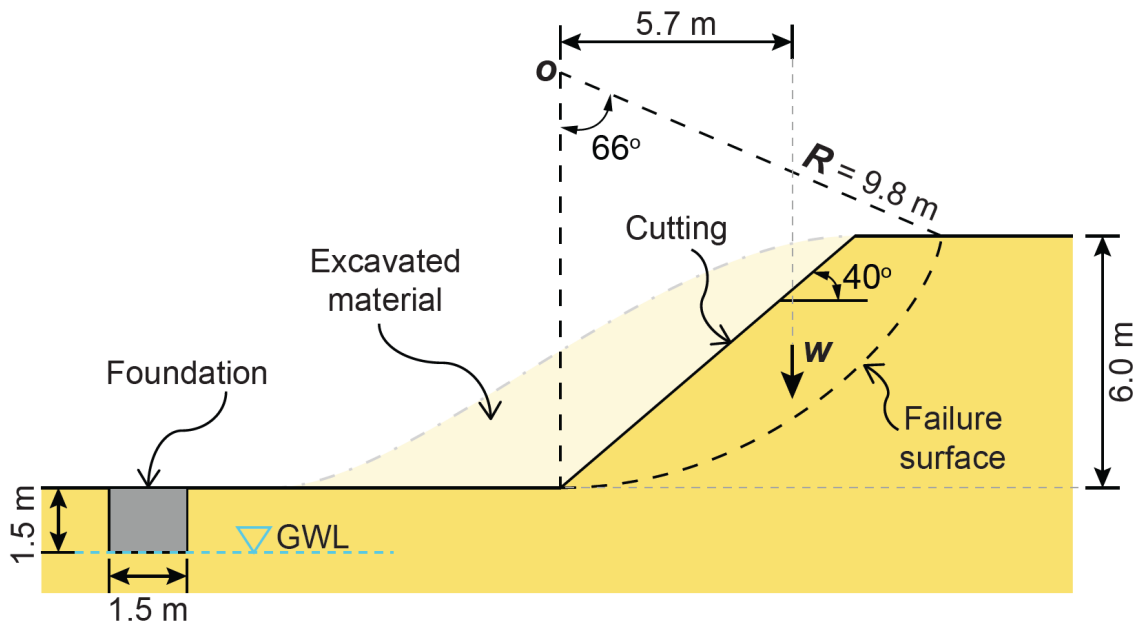

Figure QB1. Cross-section of the site comprising CLAY
- B1. A site underlain by CLAY is to be developed as part of a construction project (**Figure QB1**). Development of the site includes a cutting slope to be formed in a hillside, as well as foundations for industrial buildings.
- a) Consolidated-undrained (CU) triaxial tests were performed on three specimens of CLAY taken from the site in **Figure QB1**. The results at failure are given in **Table QB1**.
- b) The foundation shown in **Figure QB1** is to support a vertical column load of 700 kN. Foundation level and ground water level are both 1.5 m below ground level. The foundation is square with a width of 1.5 m. Use the shear strength parameters for the CLAY you determined in Part (a). Assume the CLAY and foundation both have a unit weight of 21.5 kN/m^3 . Determine the long-term factor of safety against bearing capacity failure, and comment on whether this is an appropriate factor of safety for foundations. [12 marks]
- c) The cutting slope shown in **Figure QB1** failed immediately after excavation along the circular slip surface as shown in the figure. Assume the weight of the sliding mass, W , is 430 kN/m. Determine the average undrained shear strength along the failure surface. [4 marks]